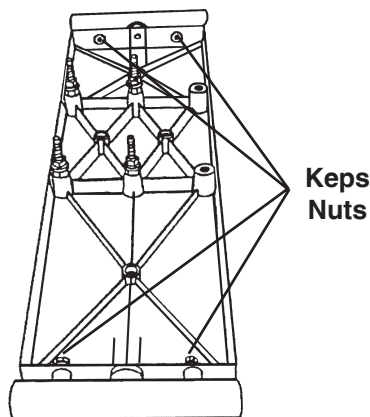

Figure 95
2. If the Extension Table's Tube is not aligned with the Worktable's Tube, use a 7/16" Wrench to slightly loosen both Keps Nuts attaching the Tube to the Extension Table. Make the needed adjustments, then retighten the Nuts. See Figure 95.